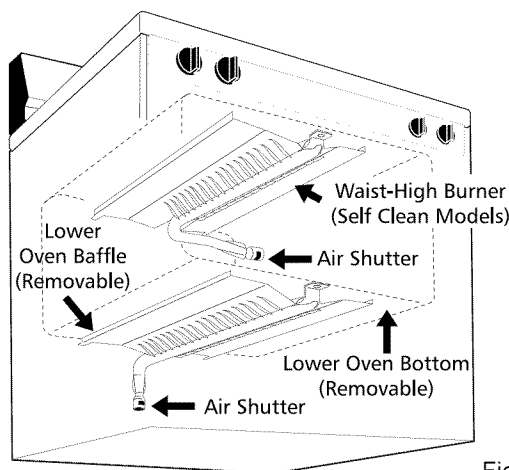

Fig. 13
- Observe the flame to determine if the broiler burner flame is properly adjusted. It should be steady with approximately 1" blue cones and no yellow or orange flame tips (See Fig. 13).